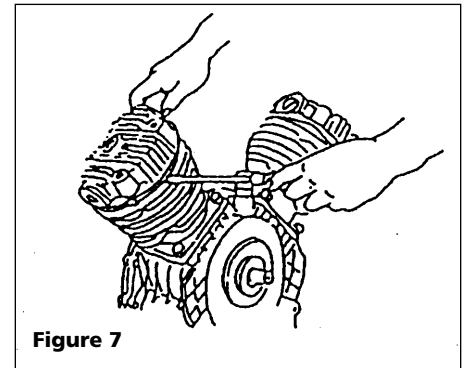

Figure 7
1. Remove head bolts from cylinder head. Head bolts for some models are used also as cylinder bolts, which penetrates crankcase (See Figure 7).